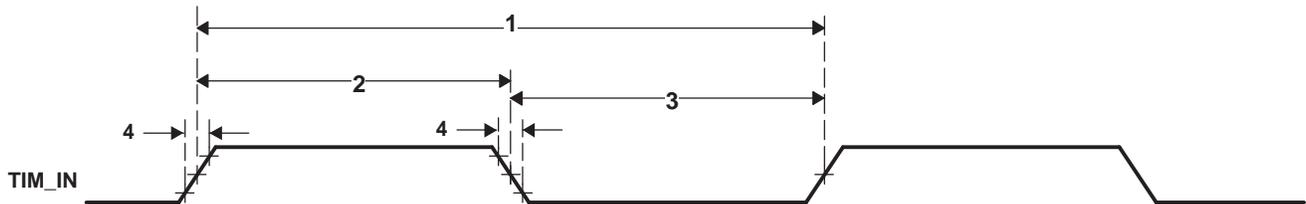

Figure 6-74. Timer Timing
Table 6-104. Timing Requirements for Timer Input^{(1) (2)} (see Figure 6-74)